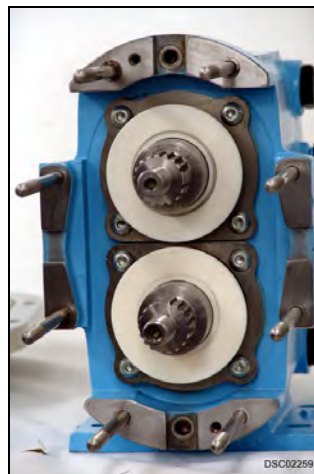

**Figure 62 - Slide locking assembly on short shaft**
3. Lubricate the locking assembly (Figure 62, item A) with light oil and slide it onto the short shaft and fully into the gear. The bolt heads should face out.